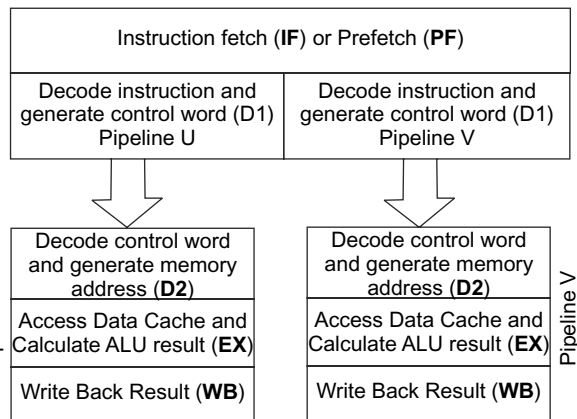

Fig. 12.2 Superscalar organization of Pentium processor
✓ **Control Unit (CU)** The control unit controls the five-stage integer pipelines U and V, and the eight-stage floating-point pipeline. In the Pentium processor, the integer pipelines are used for all instructions which are not involved in any floating-point operations. Therefore, the Pentium can transmit two integer instructions in the same clock cycle and performance of the processor is improved. This method is called *superscalar architecture*. Figure 12.2 shows the superscalar organization of the Pentium processor.
The Pentium processor architecture has been designed based on Superscalar. In Superscalar architecture, two instructions are executed in parallel. Figure 12.2 shows the superscalar architecture. Two independent integer pipelines are depicted in Fig. 12.2. In the PF and D1 stages, the microprocessor can fetch, instructions decode instructions and generate control words. In this stage, decoded instructions issue them to two parallel U and V pipelines. For complex instructions, D1 generates microcoded sequences for U and V pipelines. Several techniques are used to resolve the pairing of instructions.